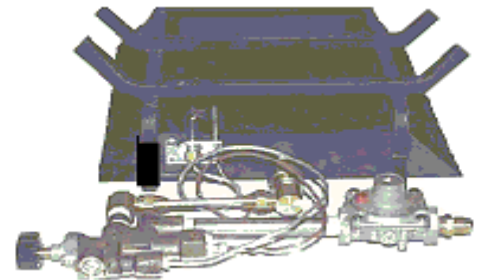

Figure 2
4. Place the **grate** over the burner. The **SBN-GBB** bracket has enough clearance to receive one of the 5/8" grate legs. Mark the position of the grate and burner for reference points. Remove the grate and proceed with the gas connection. (See Figure 2)